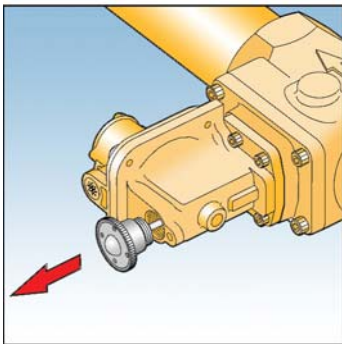

Fig. 9
17. Re-cock OPSS device by unscrewing reset spindle end cap and firmly pull. Hold in this position until the outlet pipework is fully pressurized, then release reset spindle end cap gently. Re-screw reset spindle end cap into body. See Fig. 9.
25. Re-cock UPSS device by unscrewing reset spindle end cap and firmly pull. Hold in this position until the outlet pipework is fully pressurised, then release reset spindle end cap gently. Re-screw reset spindle end cap into body. See Fig. 9.